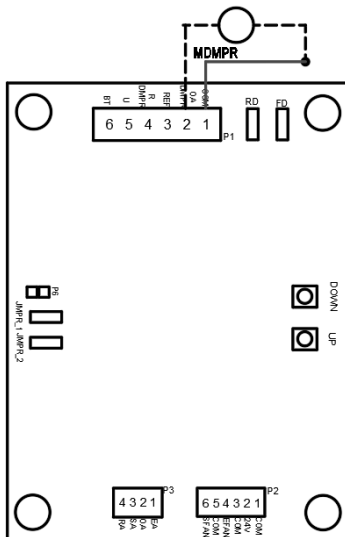

Figure 28 - Outside Air Damper Connection
2. Attach 24V lead to OA DMPR connection on P1 terminal (See **FIGURE 28 - Outside Air Damper Connection**) on the ERV control board.